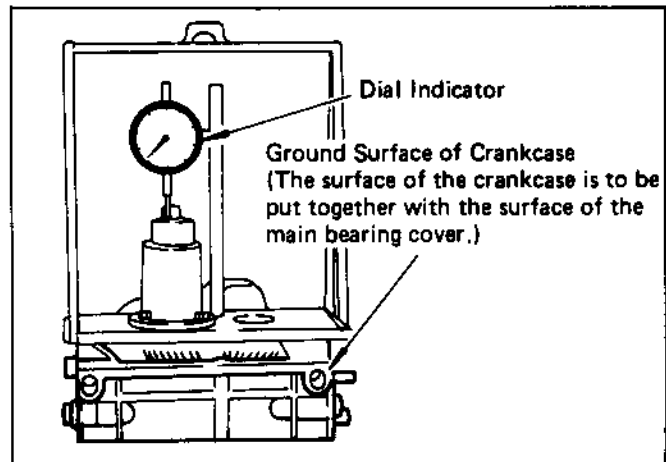

Fig. 37
**NOTE:** Fig. 37 shows one of the methods measuring the crankshaft and camshaft side clearance between the machined face of the crankcase and adjusting collar. As a paper packing is used on the machined face of the crankcase, adjust the clearance by taking this thickness of 0.22 mm into account. (See Fig. 37.)